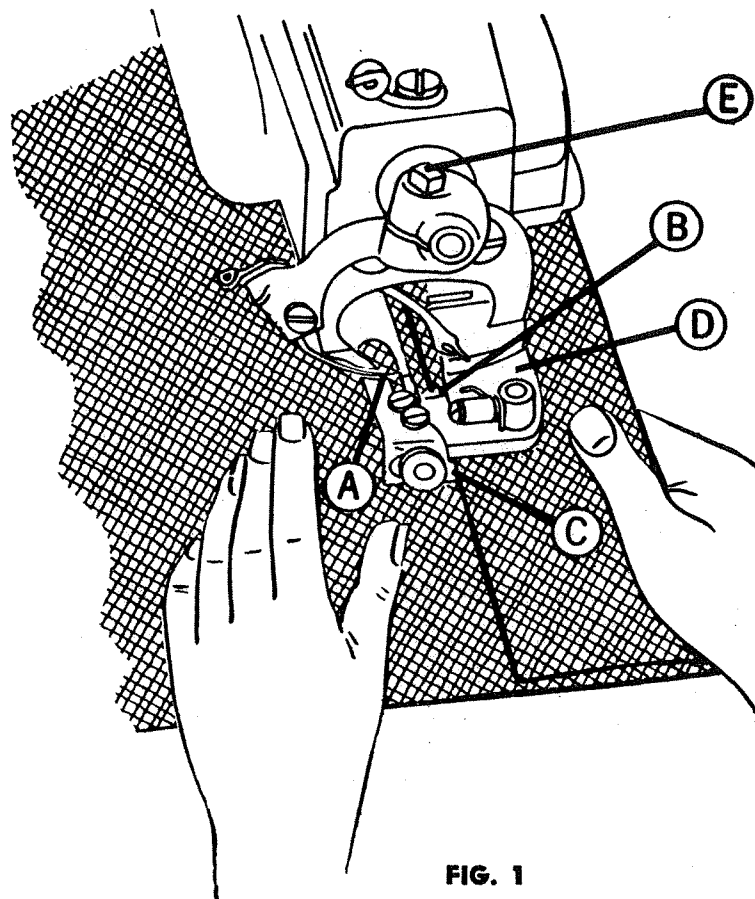

FIG. 1
1. Turn hand wheel slowly clockwise until needle reaches high point (A).
2. With hands 12 inches or so apart (Fig. 1) hold hem firmly. Depress knee lifter, place hem in machine parallel with, and up under presser foot. (D)
3. Place edge of hem in slot of shoe (B) and at edge of gauge (C).
1. On thin goods or ribbon cloth guide Fig. 1,(C) should be set almost at extreme right side of machine and should obtain results shown in Fig. 2. (F).